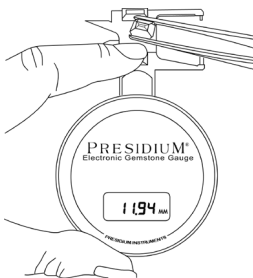

Fig. 2.2
- When measuring loose stones, pull the Slider (**Fig. 2.2**) and place the stone on the Slider platform. The base of the stone should be parallel to the platform to prevent it from moving.